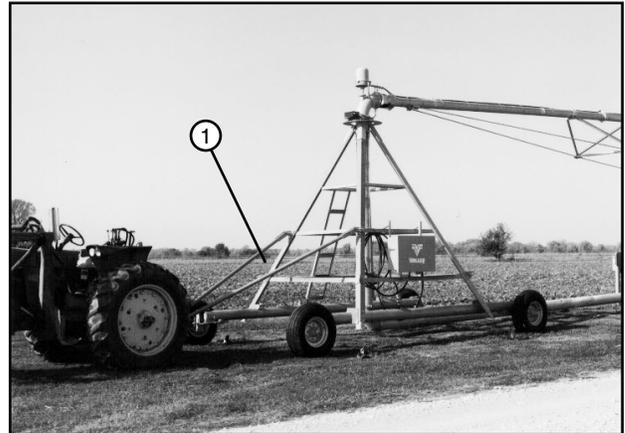

Figure 45-1 1. Tongue
13. After the pivot and drive units have been prepared for towing, hook tongue to the towing unit. See figure 45-1.